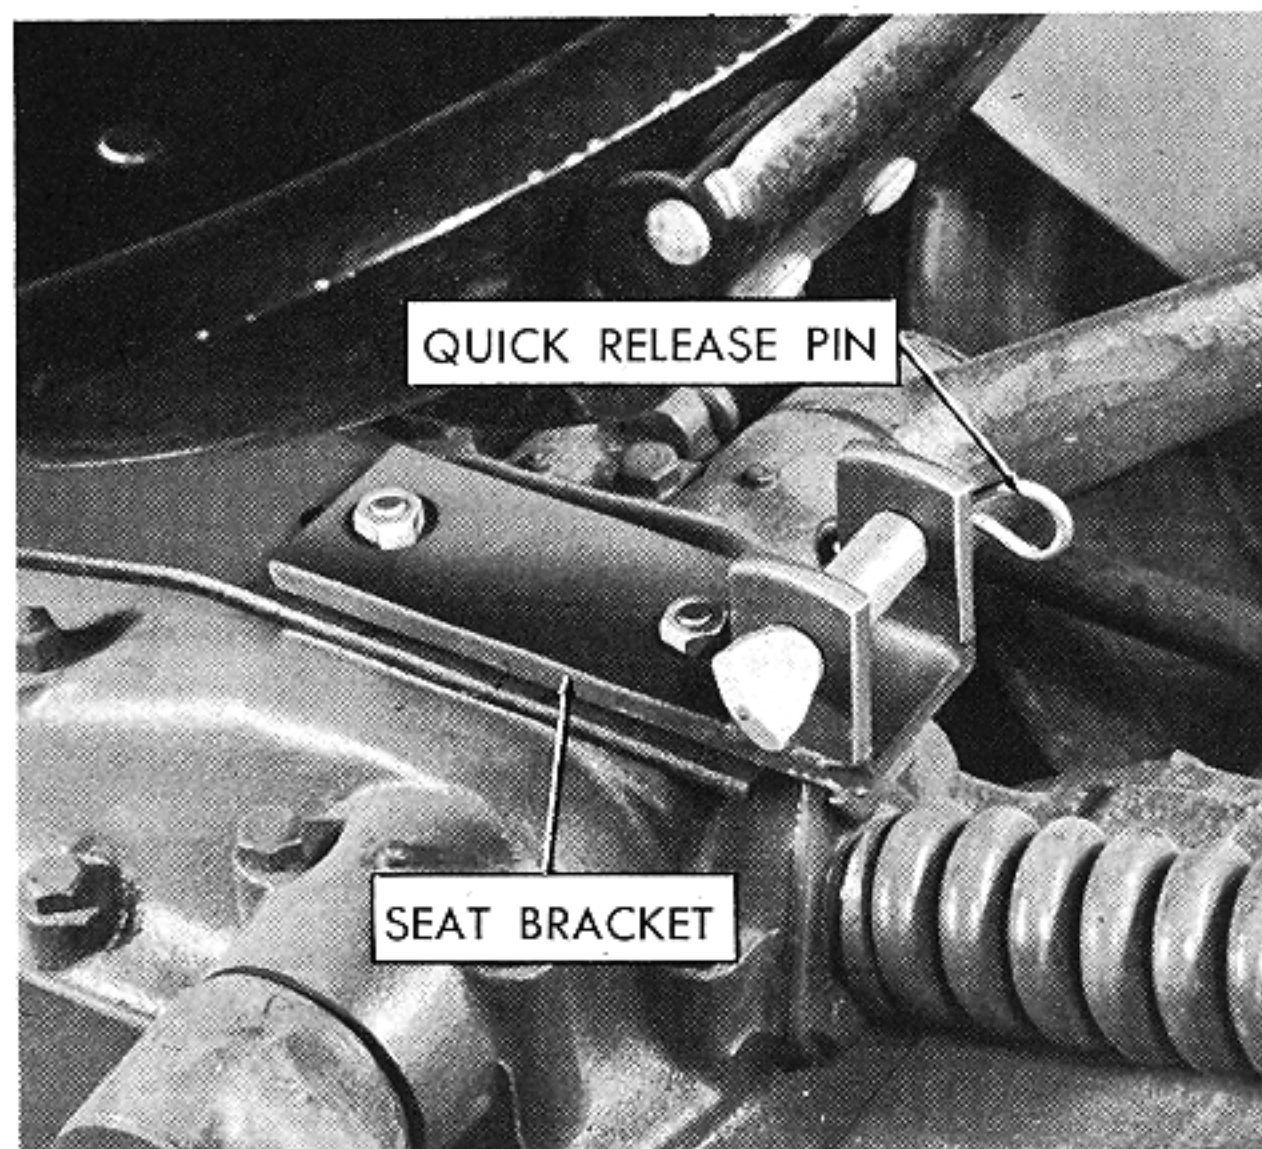

Figure 11
9. Attach the seat bracket to the tractor seat spring studs as shown in Figure 11. To permit full use of the stud threads, do not use washers or lockwashers.